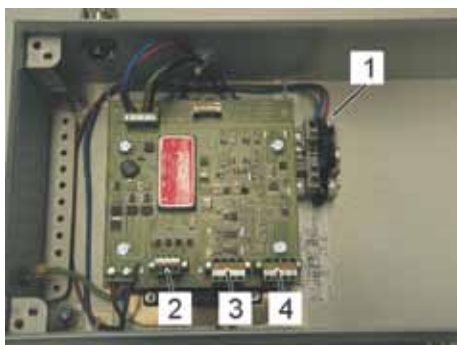

Fig. 66: Connectors
- n X1: Power supply for the board (Fig. 66/1)
- n X2: Bus cable to indication unit (Fig. 66/2)
- n X3: Bus cable from Terminal box on the left of the Line Converter box (Fig. 66/3)
- n X4: Bus cable from Terminal box on the right of the Line Converter box (Fig. 66/4)